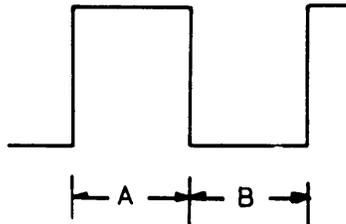

Fig. 15. Adjusting duty ratio of square wave.
3. ADJUSTMENT OF SYMMETRY OF SQUARE WAVE (See Fig. 15)
Adjust VR2 until the square wave form appearing on the oscilloscope screen provides the same durations for its half cycles A and B shown in Figure 15.